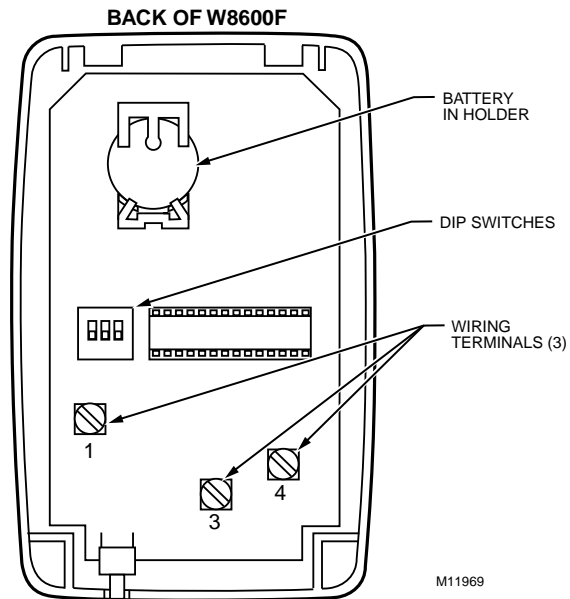

Fig. 11. Back of W8600F.
Refer to Table 2 to select the wash frequency. Set the W8600F DIP switches to match the selection. See Fig. 11. The time listed represents actual run time of the EAC, not calendar days.
2. Connect the wires to terminals 1, 3 and 4 on the W8600F. See Fig. 11.